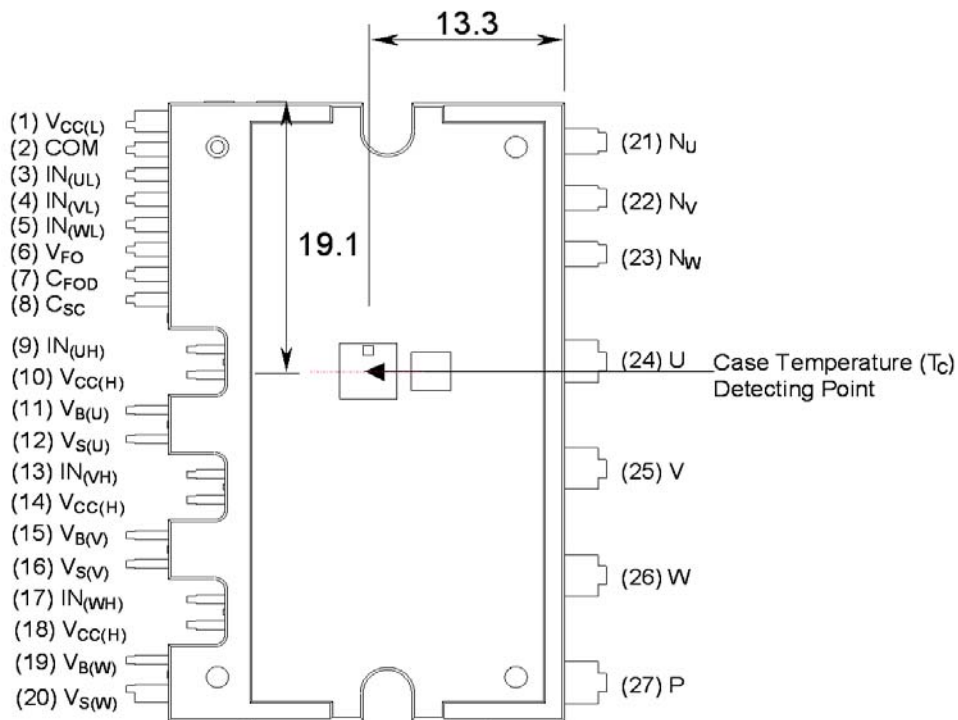

Figure 2. Top View
| T_C | Module Case Operation Temperature | $-40^\circ\text{C} \leq T_J \leq 150^\circ\text{C}$, See Figure 2 | -40 ~ 125 | $^\circ\text{C}$ |
- For the measurement point of case temperature (T_C), please refer to Figure 2.